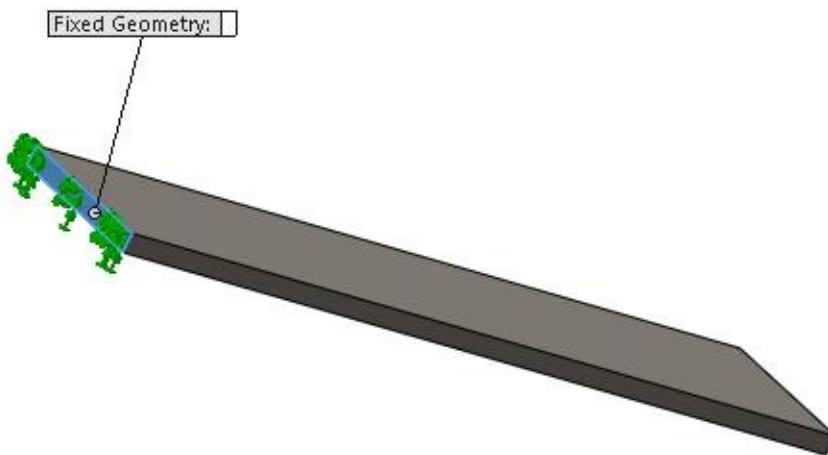

Figure-4. Faces fixed for analysis
- Select the left flat faces of the model; refer to Figure-4.